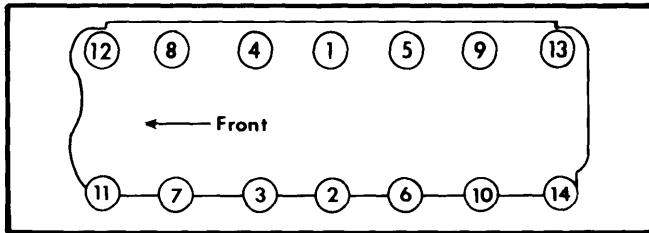

Fig. 2 Cylinder Head Tightening Sequence
3) Install cylinder head and tighten head bolts in sequence. See Fig. 2. Reverse removal procedure to replace all remaining components. Retightening head bolts is not necessary.